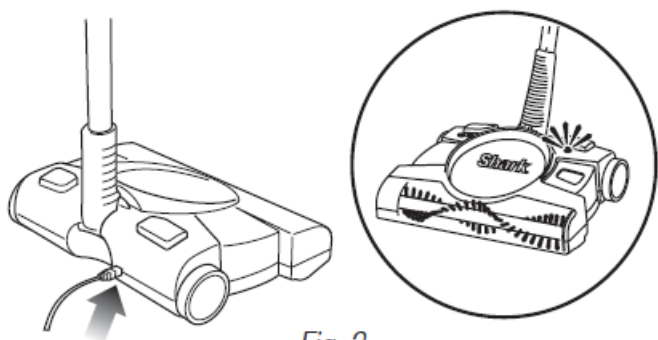

Fig. 3
2. Insert the charger plug into the hole on the back of the unit. Plug the charger into a wall outlet. The light next to the power button will illuminate when the unit is charging. If the unit is plugged in and the light is not illuminated, press the power button once. The light should now be illuminated indicating that the unit is charging. (Fig. 3)